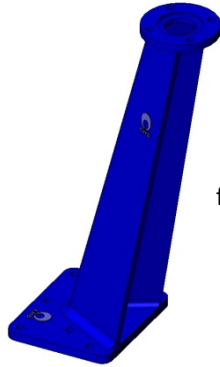

fig. 18
- Leaning floor stand (Fig. 18)